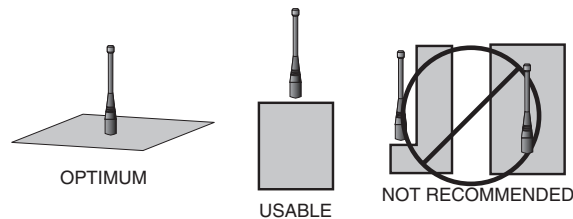

Figure 21: Ground Plane Orientation
2. Optimum performance is obtained from a $\frac{1}{4}$ - or $\frac{1}{2}$ -wave straight whip mounted at a right angle to the ground plane (Figure 21). In many cases, this isn't desirable for practical or ergonomic reasons, thus, an alternative antenna style such as a helical, loop or patch may be utilized and the corresponding sacrifice in performance accepted.